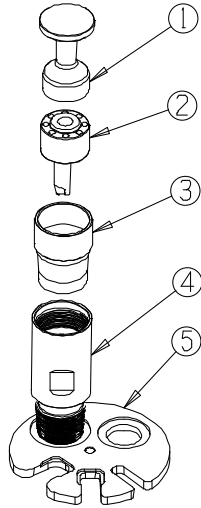

Figure 12-4a HH79 Inserting Shock Absorber into End Cap
9. (HH79 refer to **Figure 12-4a**). Position the End Cap with the external thread end down on the Press Plate Assembly
11. Lubricate the outer surface of the Shock Absorber with Rubber Lube P80 or equivalent. With the fingers of the Valve Guide pointing down, position the Shock Absorber with the Valve Guide as shown in Figure 12-4a.
12. Center the Shock Absorber Pusher Tool over the Shock Absorber as shown in Figure 12-4a.